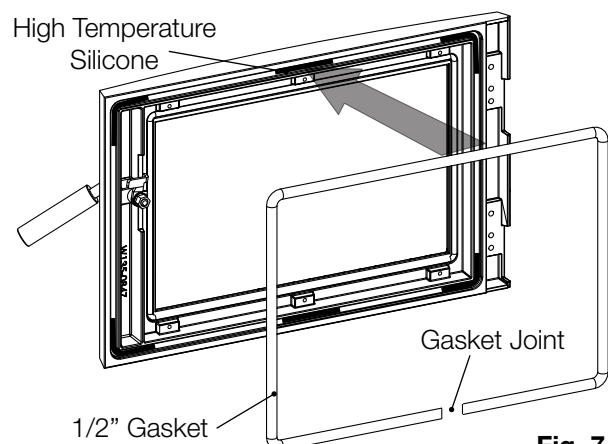

Fig. 7-4
- Apply **high temperature silicone** (not supplied) in the gasket groove as illustrated (**Fig. 7-4**).
- Cut the 1/2" gasket (supplied) to size and place on top of the silicone. Press the gasket down firmly to ensure it stays in place. Ensure the gasket joint is at the bottom as illustrated (**Fig. 7-4**).